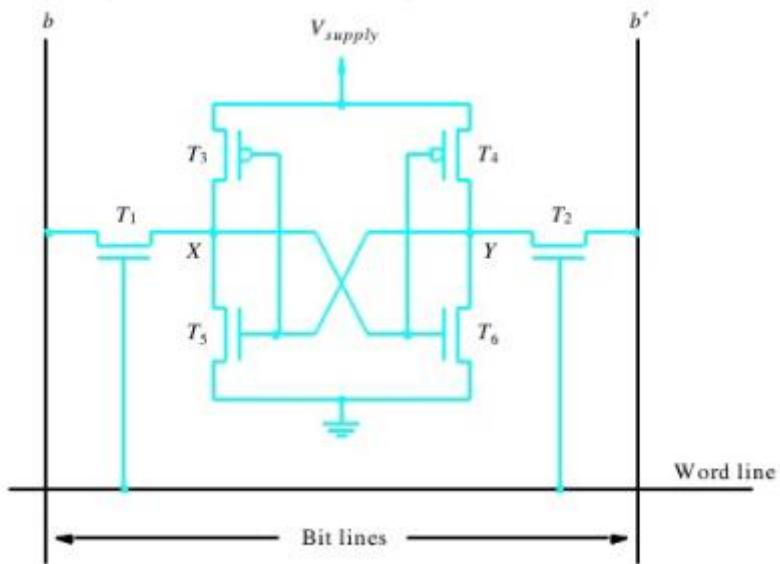

Figure 5.5 An example of a CMOS memory cell.
**CMOS cell:** A CMOS implementation of a SRAM is as shown in Figure 5.5.